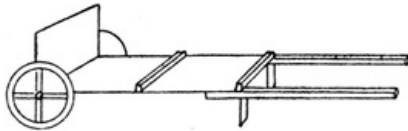

FIG. 94
**A Porter's Truck.** This is made from a box of which three sides have been cut away (Fig. 94). It can be covered with brown paper, and matches can be glued across it. The handles are of matches, the legs of stiff paper fastened to the bottom. The children can make little paper parcels and boxes to put on the truck.